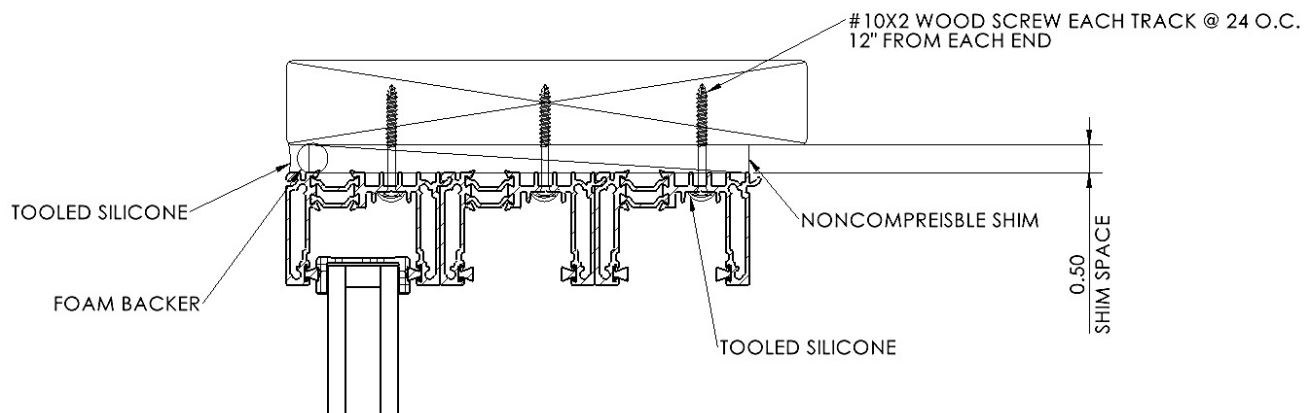

Figure 9
20. Complete the anchoring of the head assembly to ensure that it is flat, level and parallel with the threshold. Before panel installation, seal the vertical joint between the post interlock frame members and the face of the threshold, the horizontal joint between the post interlock and the top surface of the threshold, and the vertical joint between the post interlock and sill side plates, with Dow Corning 795 silicone, or equal. See **Figure 9**.